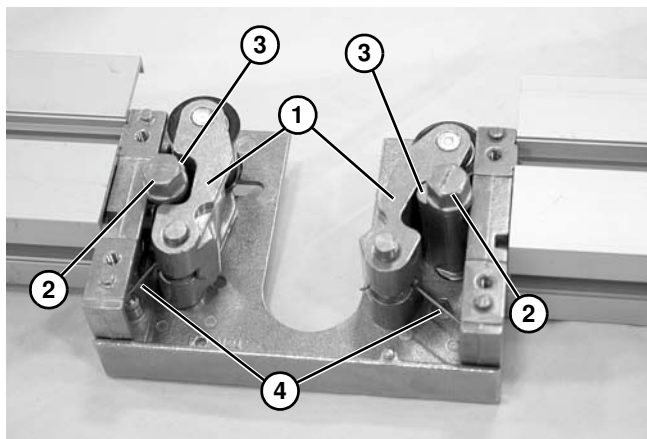

Figure 40
5. Remove tensioner block assemblies (**Figure 40, item 1**).
6. Remove tensioner cams (**Figure 40, item 2**). Inspect for wear and replace as needed.
*When installing tensioner block assemblies (**Figure 40, item 1**) into side plate, make sure that the tensioner cam lobes (**Figure 40, item 3**) are facing up.*
9. Assemble components in the reverse order of removal. Ensure that the springs are installed correctly; note the direction of the long leg as shown in (**Figure 40, item 4**)